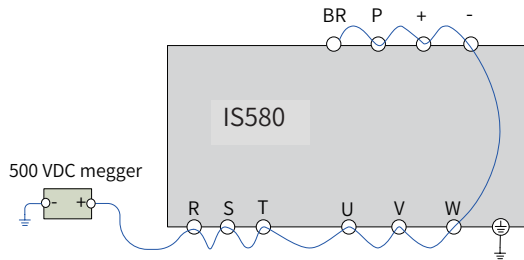

Figure 7-1 Insulation test on the main circuit
- ◆ Before measuring the insulation resistance with a megger (500 VDC megger recommended), disconnect the main circuit from the servo drive. Do not use the insulation resistance meter to test the insulation of the main circuit (see "Figure 7-1 Insulation test on the main circuit"). The high voltage test (> 500 V) does not need to be performed again because it has been done before delivery.